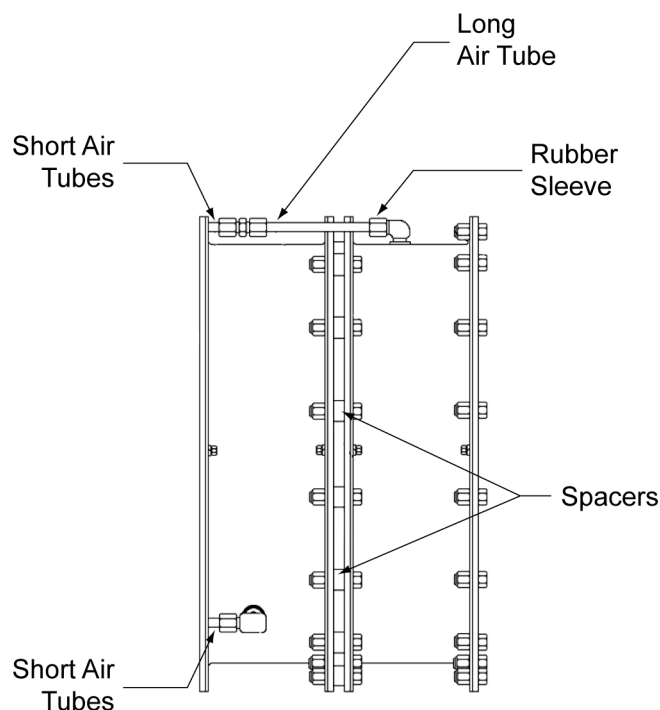

Figure 8
- 2.7.7 Align the air connections and reassemble the element halves, making sure the spacers are in place between the elements. See **Figure 8**.
- 2.7.8 Reassemble the air connection tubes. If an elbow has been removed, use a good quality pipe sealant on the threads. See **Figure 8**.